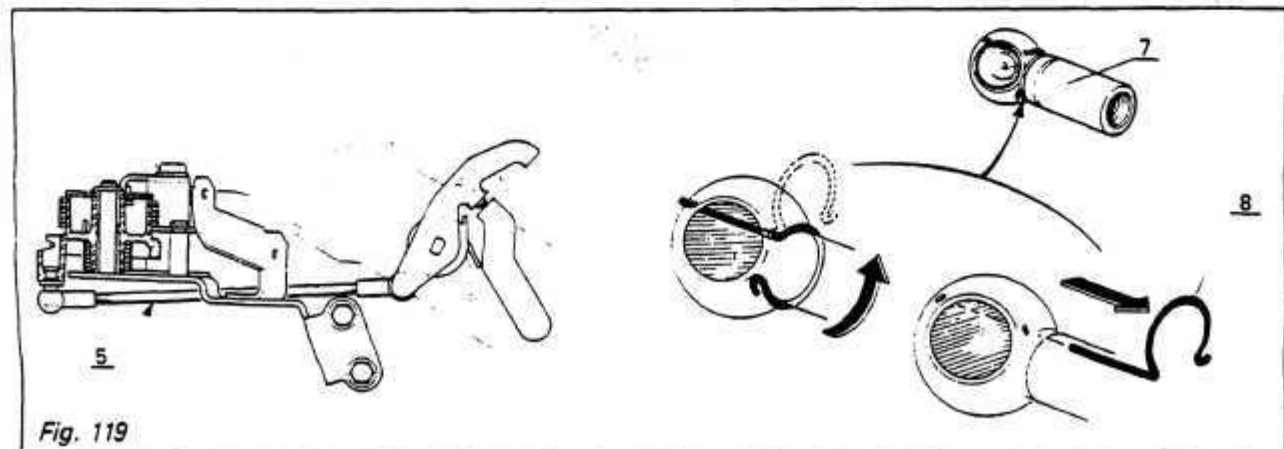

Fig. 119
Disconnect arm (5) (Fig. 119) from the throttle linkage ball as follows: -
The throttle arm ball joint, locking it correctly with the clip (8) (Fig. 119)